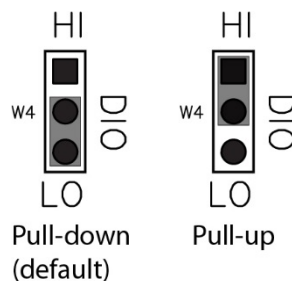

Figure 5. Pull-up/down jumper configuration
5. Configure the **DIO** jumper for pull-up or pull-down, as shown in Figure 5.